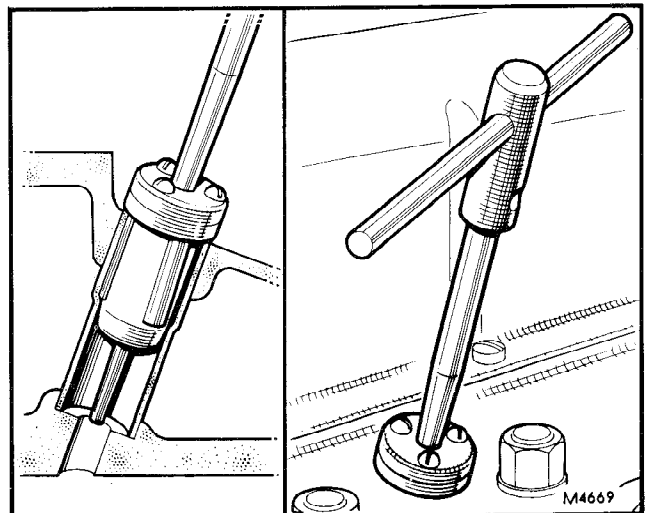

Fig. 3
8. Insert tool LC 173 into the injector sleeve. Withdraw the tool approximately 6.4 to 9.5 mm ($\frac{1}{4}$ to $\frac{3}{8}$ in), then expand the top portion of the injector sleeve into the cylinder head by applying pressure and a clockwise rotary motion to the expander rod until it reaches the limit of its travel. Withdraw the tool using an anti-clockwise rotary motion (refer to Fig. 3).